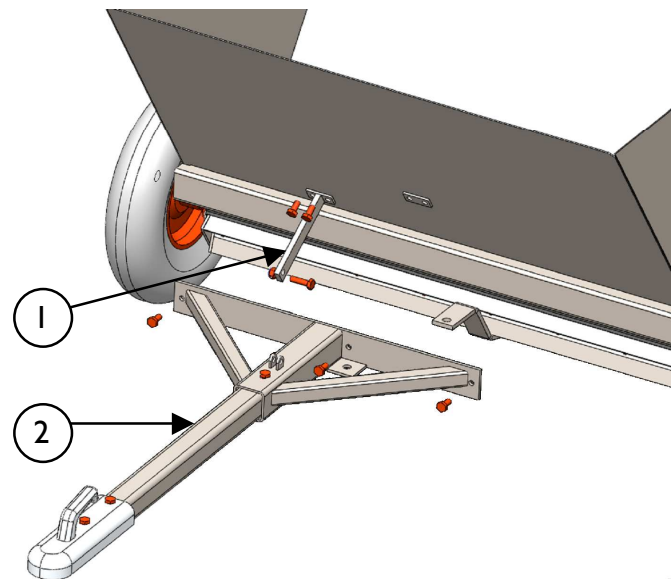

Figure 2 – Installing drawbar
To install the drawbar, first a support bracket (1) is fitted to the spreader with two bolts as shown in figure 2. Then the drawbar (2) is fitted to the spreader with three bolts and to the support bracket (1) with one bolt and nut.